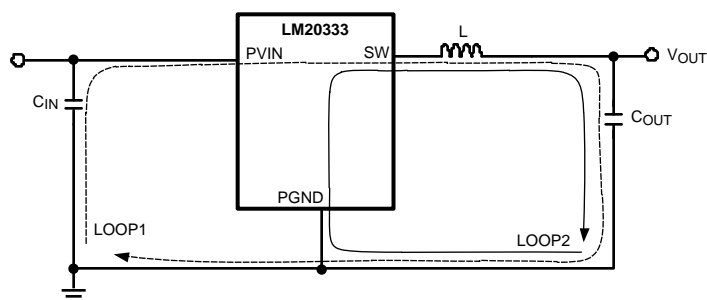

Figure 37. Schematic of LM20333 Highlighting Layout Sensitive Nodes
1. Minimize area of switched current loops. In a buck regulator there are two loops where currents are switched at high slew rates. The first loop starts from the input capacitor, to the regulator VIN pin, to the regulator SW pin, to the inductor then out to the output capacitor and load. The second loop starts from the output capacitor ground, to the regulator GND pins, to the inductor and then out to the load (see Figure 37). To minimize both loop areas the input capacitor should be placed as close as possible to the VIN pin. Grounding for both the input and output capacitor should consist of a small localized top side plane that connects to GND and the exposed pad (EP). The inductor should be placed as close as possible to the SW pin and output capacitor.